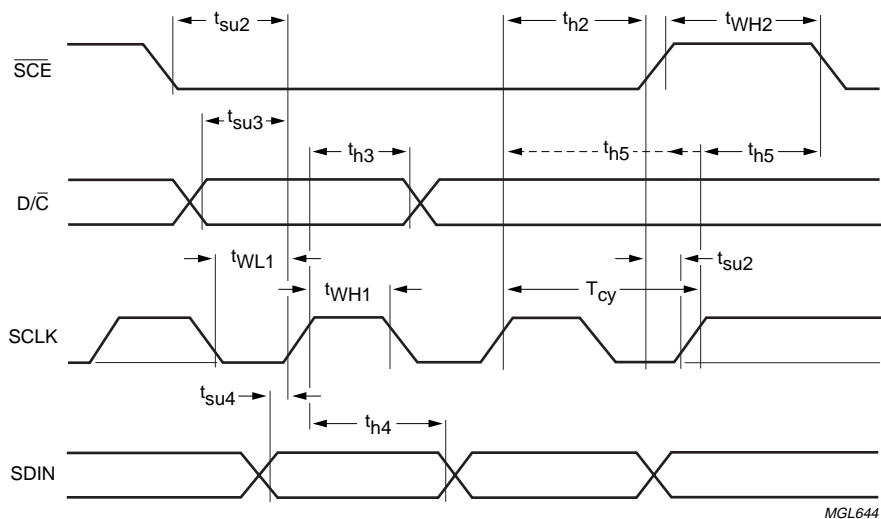

Fig.15 Serial interface timing.
3. th5 is the time from the previous SCLK positive edge (irrespective of the state of  $\overline{\text{SCE}}$ ) to the negative edge of  $\overline{\text{SCE}}$  (see Fig.15).